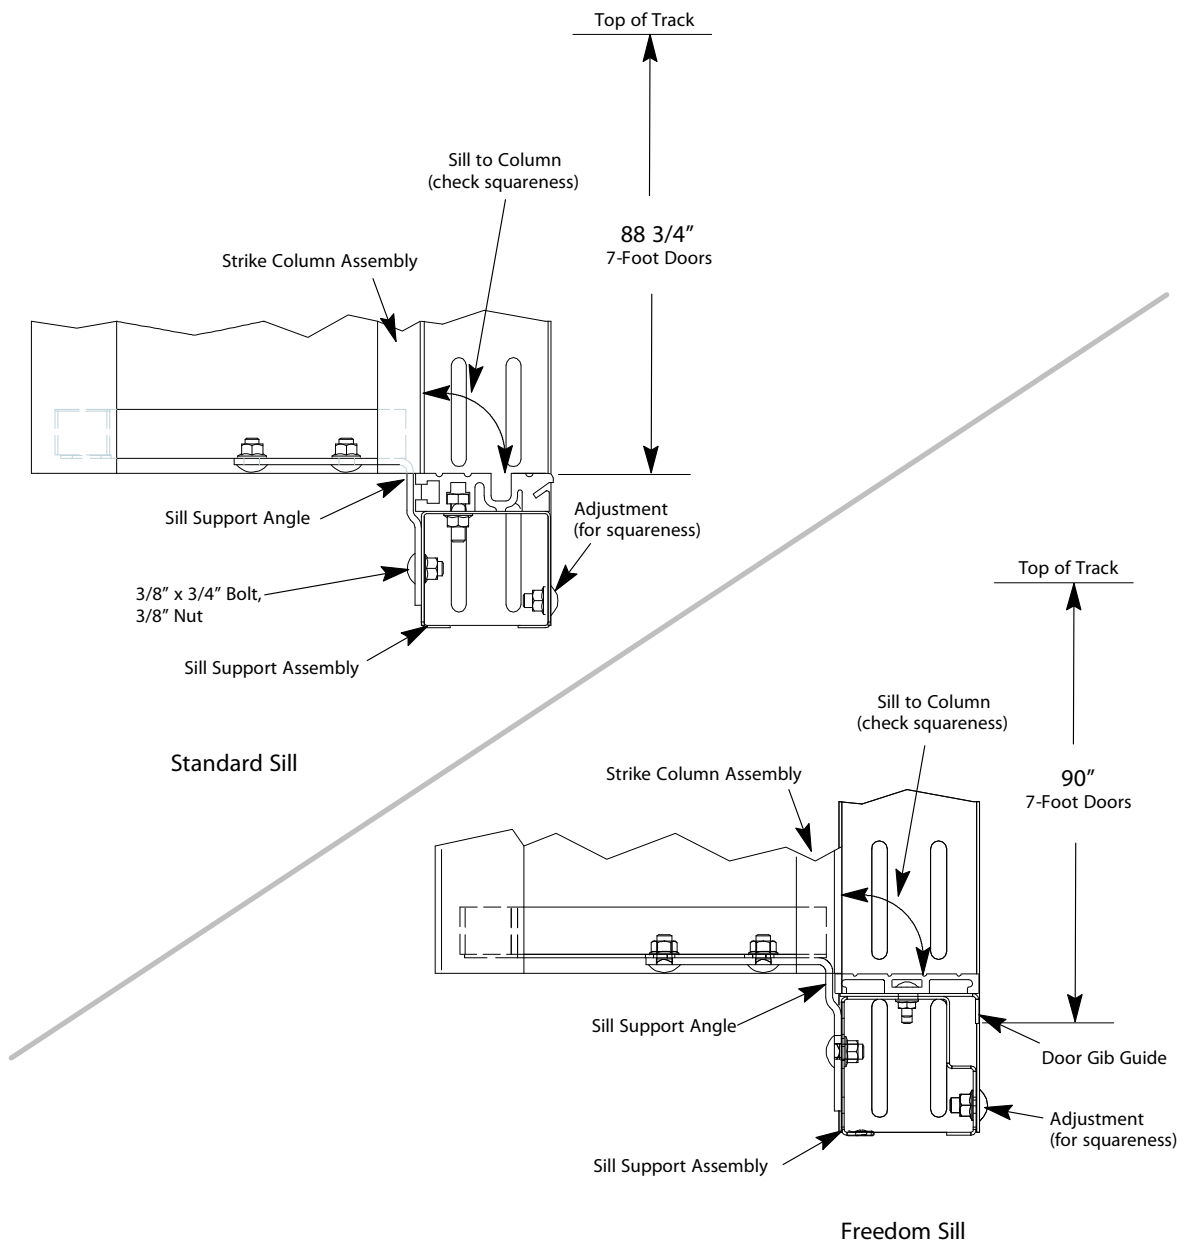

Figure 15 - Door Opening Dimensions
12. Verify the dimensions of the frame. Measure the area diagonally from top to bottom. See Figure 15 on page 21.